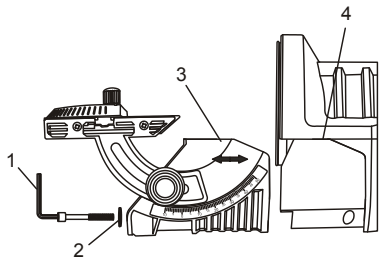

Fig. 3
1. Insert the 5mm hex key (1) supplied into the sanding table assembly mounting screw (2) (Fig. 3).
3. Slide the sanding table assembly (3) outward away from the sanding plate.